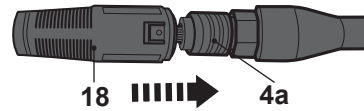

Fig. 17
- > To remove the nozzle, pull the sleeve of the nozzle connection port (4a) of the pressure lance (4) backward (Fig. 17).